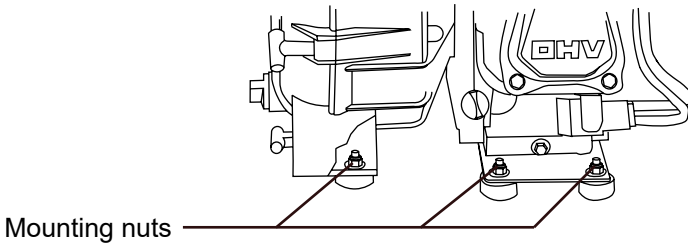

Fig. 23
4. Using an open end wrench, loosen and remove the six nuts (four under the engine, two under the pump) that hold the unit to the vibration mounts (Fig. 23).